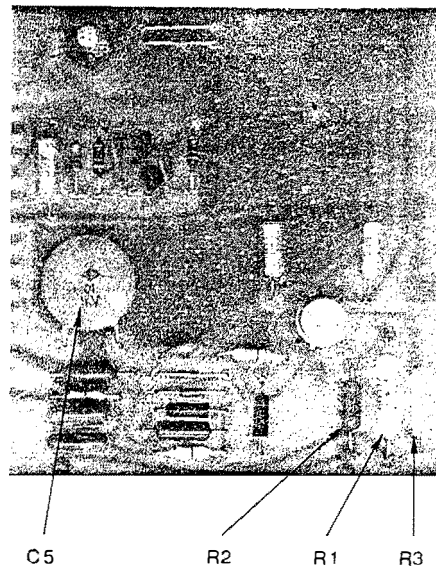

Figure 5. Component Location
- Install resistors and capacitor specified in Table I to attain desired range. See figure 5 for component location. Note that these components will be installed in the upper board assembly.